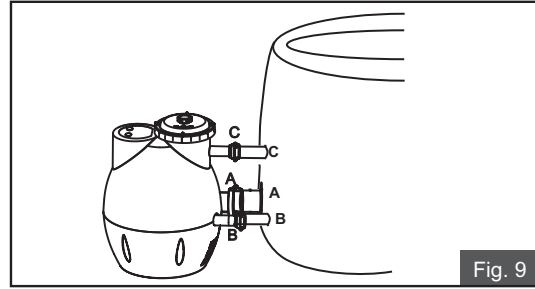

Fig. 9
5. Connect the pump to the Massage Tub by lining up the letters A to A, B to B and C to C. Ensure the seals are properly in place and hand-tighten the adapters until snug. (See Fig. 9)